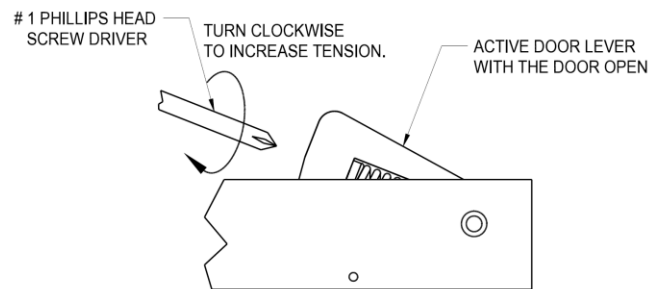

Figure 4: Override Mechanism
- If the Coordinator still overrides, adjust the tension on the Override Mechanism by using a #1 Philips Head Screwdriver. Turn the screw in the lever end clockwise as seen in Figure 4.